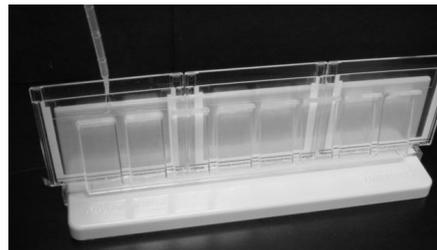

Fig. 3.2. Casting mini gels in the empty Ready Gel® cassette in the 6-row AnyGel stand.
1. After inserting the cassettes, cast the gels and insert combs as usual (Figure 3.2).